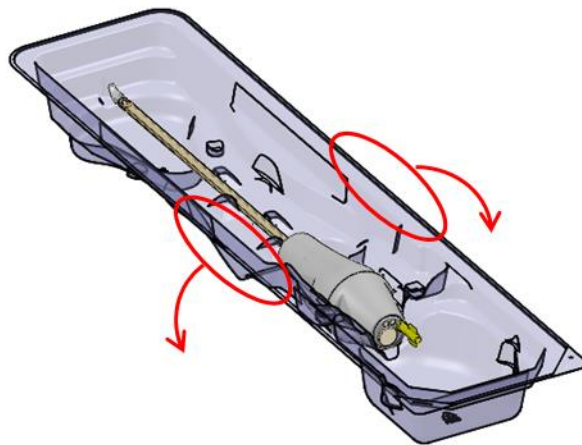

Figure 19: Releasing the UA from the packaging tray
4. **MRI Technologist:** While holding the UA packaging tray by the long edges of its perimeter, flex the tray to release the UA from its snap features (*Figure 19*).